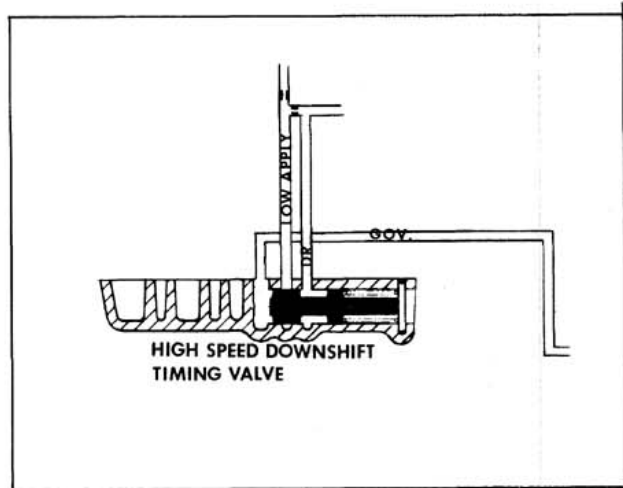

Fig. 6-327 High Speed Downshift Timing Valve
**HIGH SPEED DOWNSHIFT TIMING VALVE (Fig. 6-327)**